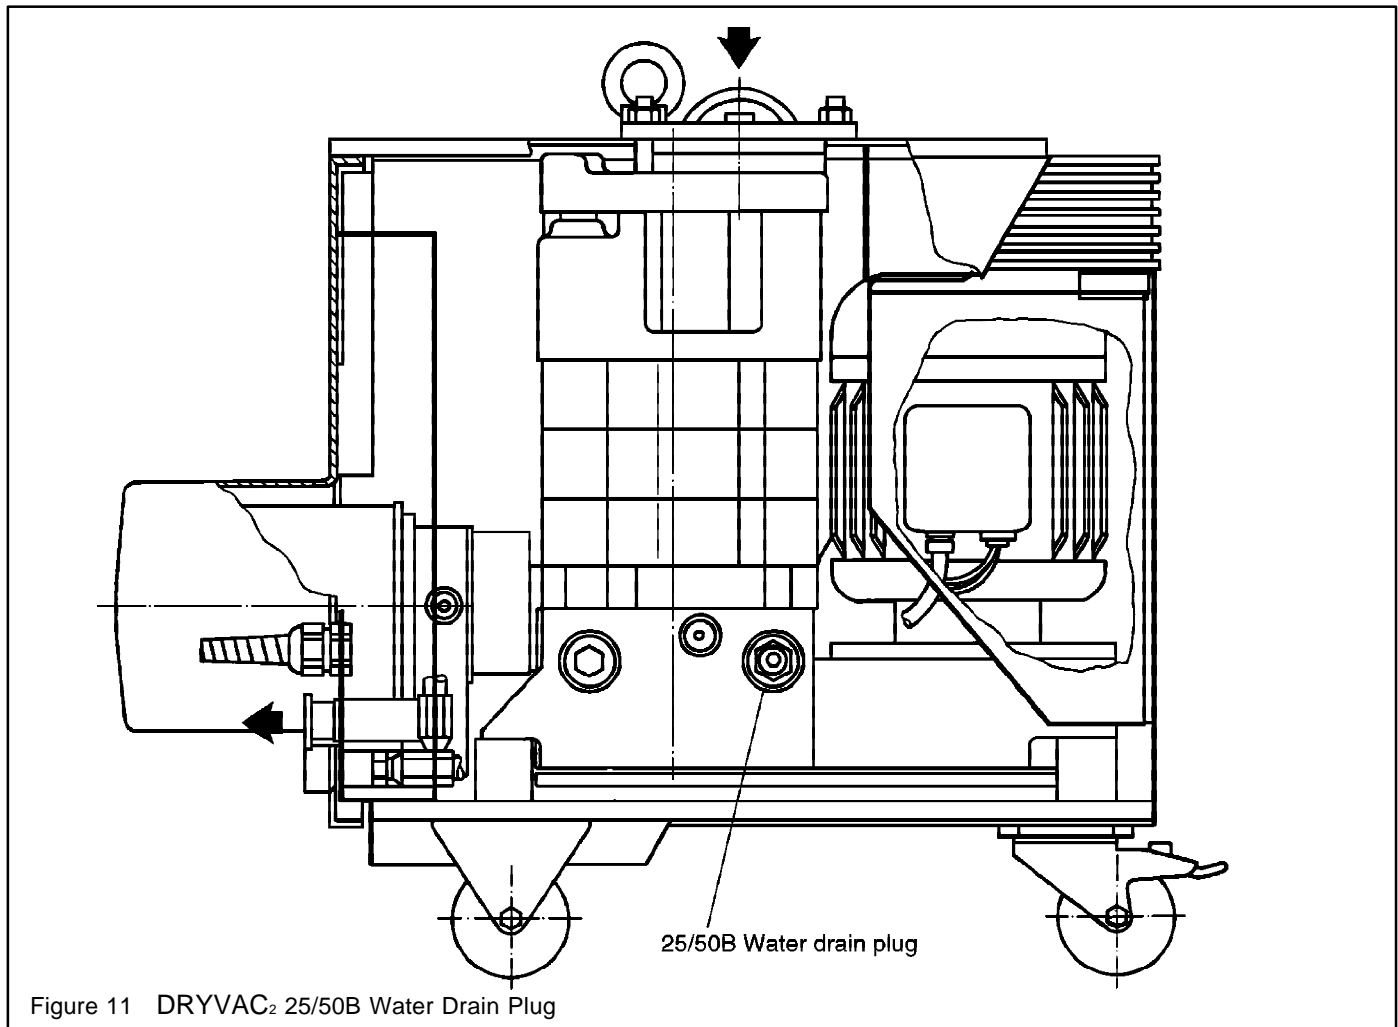

Figure 11 DRYVAC₂ 25/50B Water Drain Plug
4. Disconnect the cooling water hoses; remove the M12x1.5 plug screw (see Figure 11); and let the water drain out. Blow compressed air through the DRYVAC₂'s water out port to remove as much of the residual water as possible.